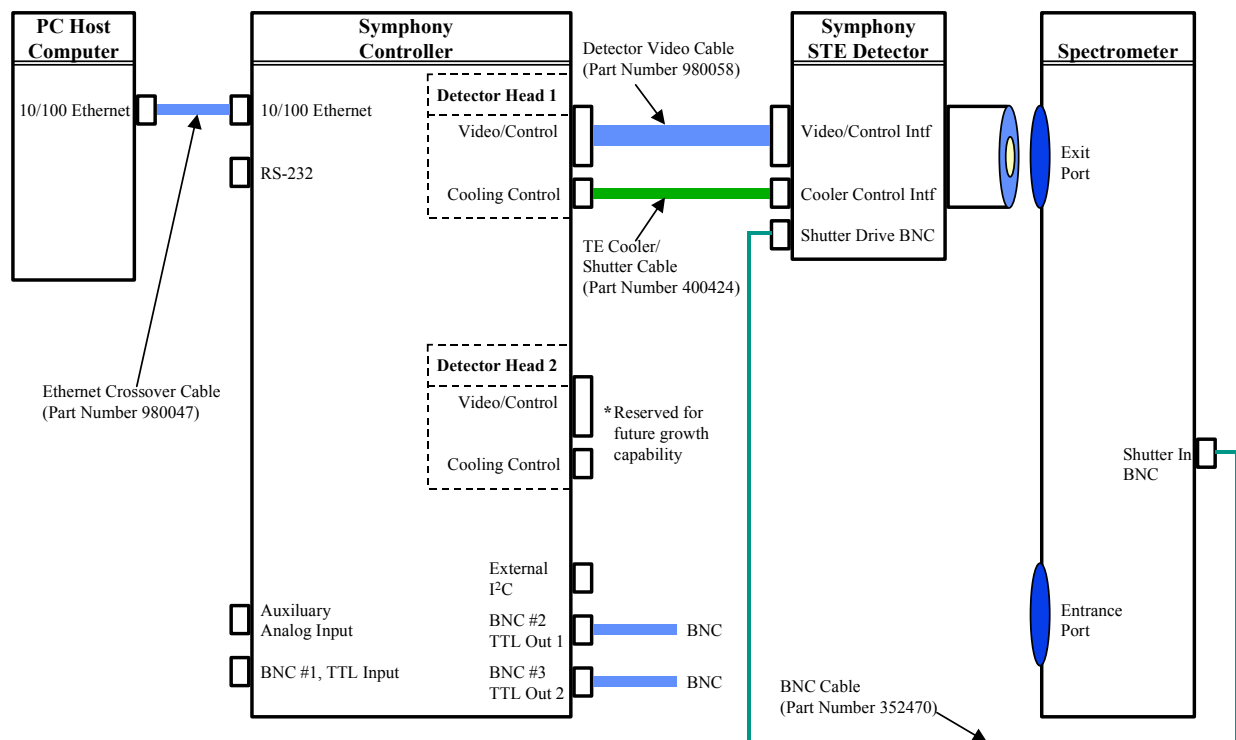

Figure 5. Symphony STE CCD Detection System Electrical Interconnect Diagram
5. Connect the 68-pin Detector Video Cable between the controller and detector as illustrated in Figures 5 and 6.
6. Connect the 25-pin TE Cooler/Shutter Cable between the controller and detector as illustrated in Figures 5 and 6. Tighten all screws and/or slide the locking mechanism latch on each connector to ensure a tight connection to the interfacing unit.
7. Connect the BNC Shutter Cable (P/N 352470) to the Detector Head's BNC port. Connect the remaining end to the BNC receptacle on the spectrograph as illustrated in Figures 5 and 6.